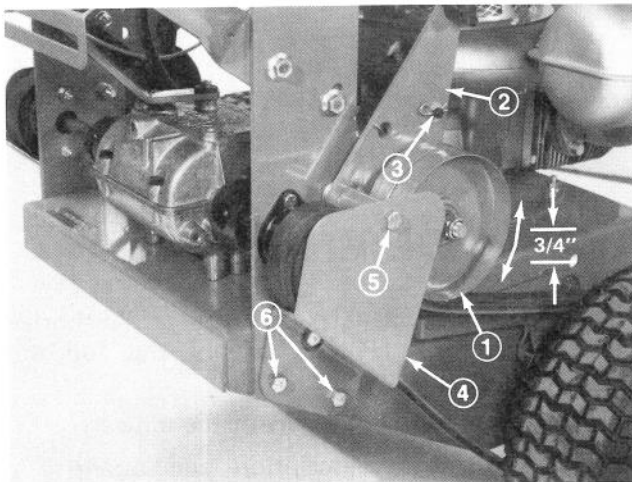

Figure 20
1. Check travel of idler pulleys when fully engaging wheel belts. Pulley travel should be approximately 3/4" (Fig. 20).
1. Remove top cap screw securing idler support and idler bracket to rear frame (Fig. 20).